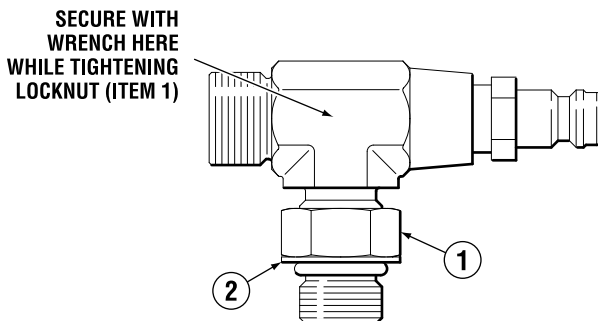

Figure 5-18. Re-orientable hose fitting.
1. Back off lock nut (item 1 in figure 5-18) counter-clockwise, until it stops.
2. Thread fitting into the cylinder port until the fitting washer (item 2) contacts the face of the cylinder port. Tighten hand tight. **DO NOT USE A WRENCH.**